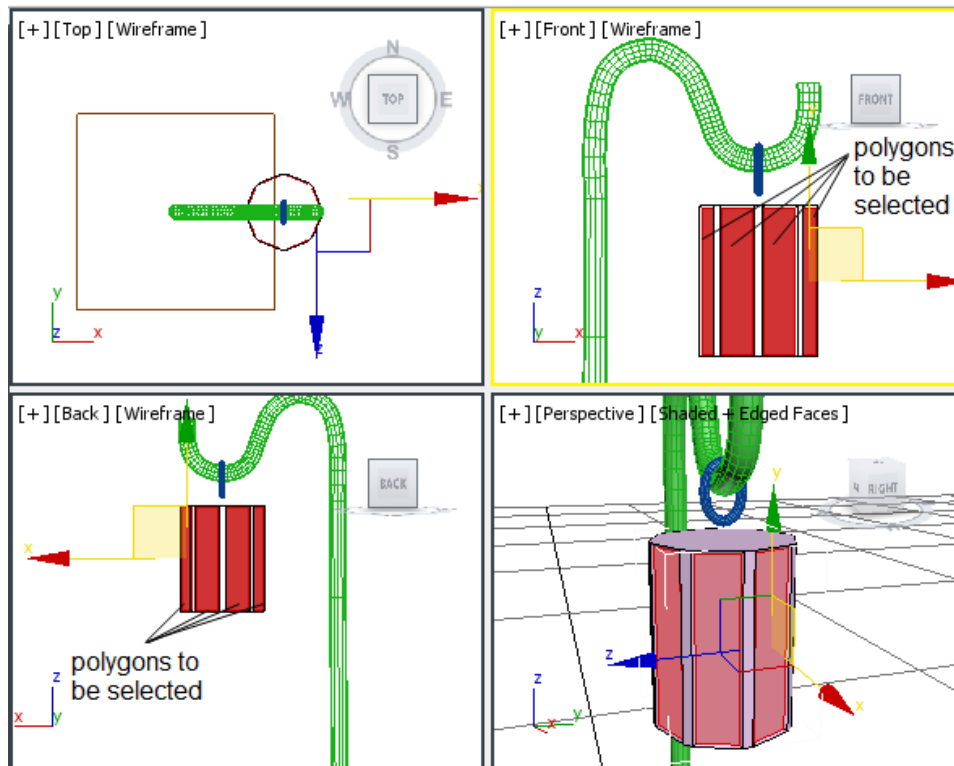

Figure 5-33 The selected polygons between chamfered edges
8. Switch from Left to Back viewport. Next, select the **Polygon** sub-object level from the **Selection** rollout and select all polygons between the chamfered edges, as shown in Figure 5-33.